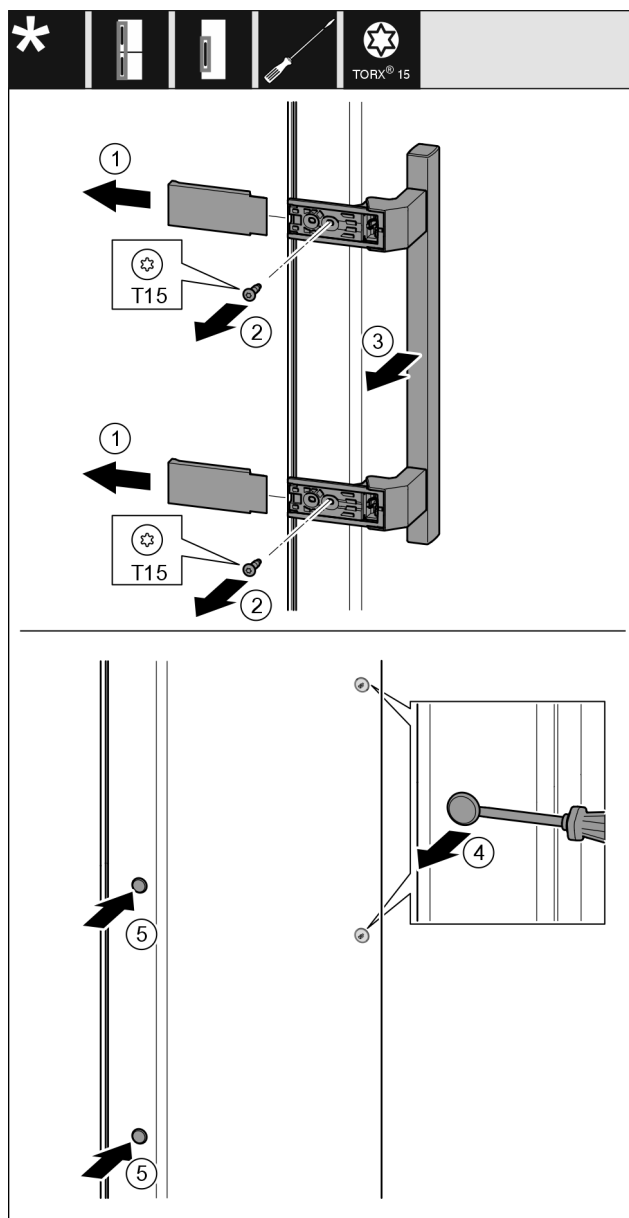

Fig. 41
- ▶ Remove the cover *Fig. 41 (1)*.
- ▶ Unscrew screws *Fig. 41 (2)* with screwdriver.
- ▶ Remove the handle *Fig. 41 (3)*.
- ▶ Use a slotted screwdriver to lift the side plug *Fig. 41 (4)* carefully and pull it out.
- ▶ Re-insert the plug *Fig. 41 (5)* on the other side.